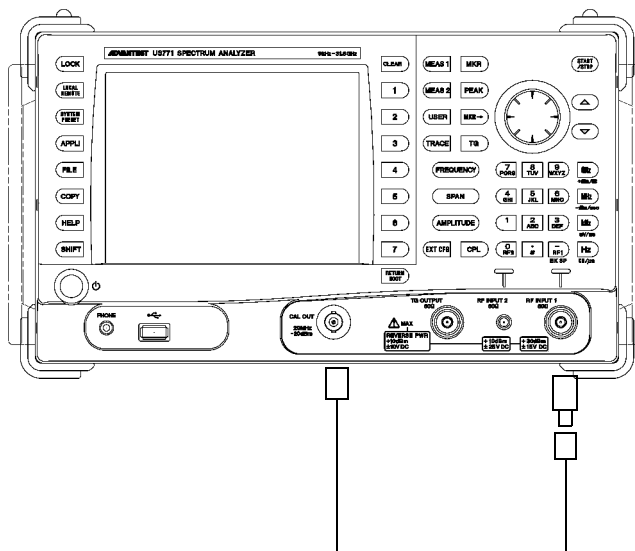

Figure 3-7 Connecting the CAL Signal
6. Connect as shown in Figure 3-7 by using the included N-BNC adaptor and input cable (A01037-300).